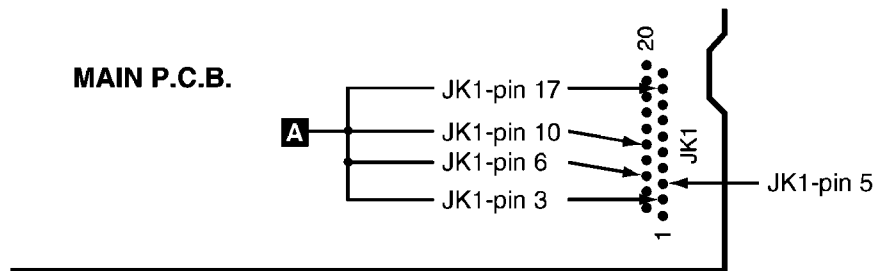

Fig. 6-2.
1. Short the JK1-pin 3 , JK1-pin 6 , JK1-pin 10 and JK1-pin 17 . Refer to Fig. 6-2.